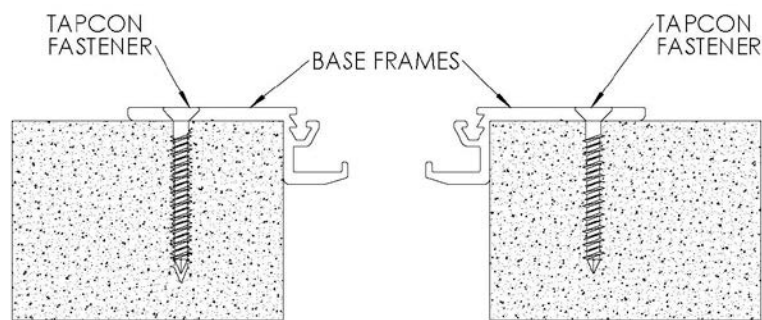

FIGURE 1
1. Position base member frames in expansion joint per shop drawings. Using the frames as a template, mark and drill 5/32” holes in the concrete. Install base member frames with supplied Tapcon fasteners, making sure not to over tighten. **See Figure 1**